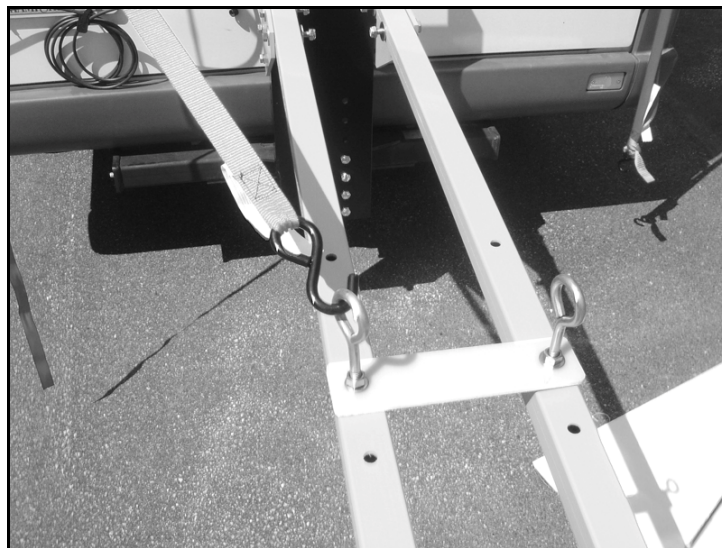

Figure 9: Attach ratchet straps.
Step 7: Attach ratchet straps and tighten (Figure 9). These will help to stabilize the antenna. Pick a secure attachment point on the vehicle and when attaching the straps, position them so that the metal buckle is as far as possible from the antenna. This attachment point may experience considerable stress while surveying. Be careful to avoid over-tightening the ratchet straps. Over-tightening may cause permanent damage to the mounting rails.